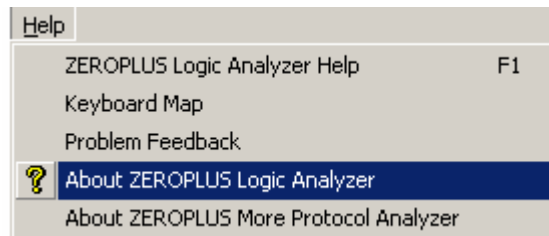

Fig. 6-3 – About ZEROPLUS Logic Analyzer
- A:** Click **Help** from the Menu Bar (See Fig 6-3),
and then select **About ZEROPLUS Logic Analyzer**(See Figs 6-3 and 6-4).